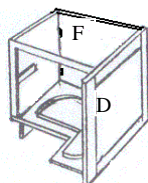

Figure 6
8. Place the back panel and align the cam lock connectors with side panels. Make sure that it fits and locked. (Figure 6)